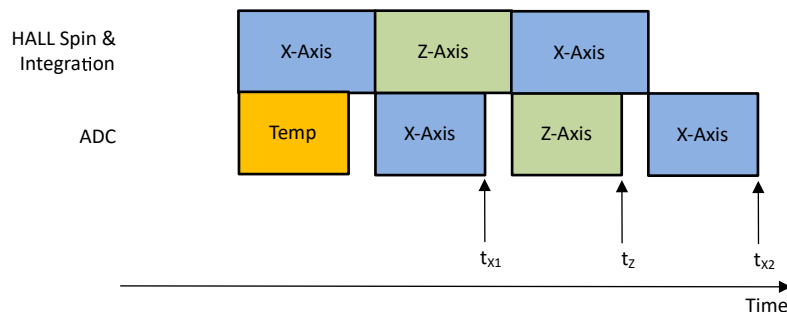

图 8-3. XZX Magnetic Field Conversion
In absolute angle measurement, application sensor data from multiple axes are required to calculate an accurate angle. The magnetic field data collected at different times through the same signal chain introduces error in angle calculation. The TMAG5173-Q1 offers pseudo-simultaneous sampling data collection modes to eliminate this error. 图 8-3 shows an example where MAG_CH_EN is set at 1011b to collect XZX data. 方程式 18 shows that the time stamps for the X and Z sensor data are the same.
- t_{x1} , t_z , t_{x2} are time stamps for X, Z, X sensor data completion as defined in 图 8-3.